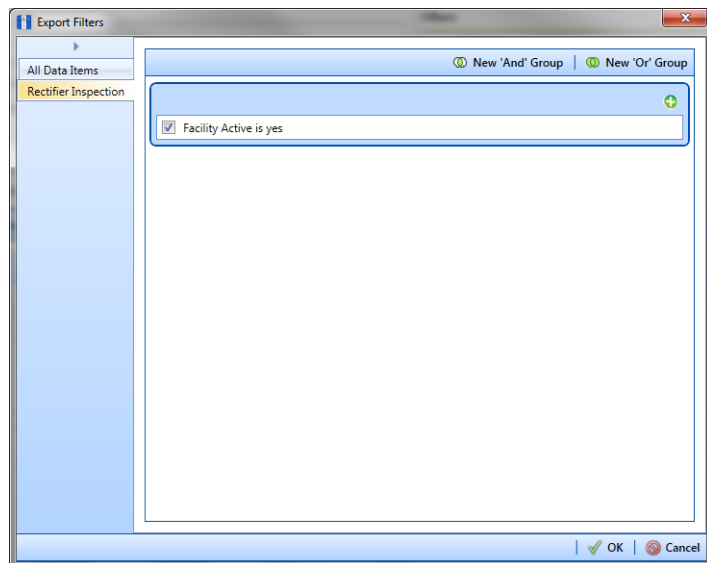

Figure 9-25. Export Filters
- a Click the tab **All Data Items**. Click the check box for each filter you want to apply to *all* data items in the export file (Figure 9-25).